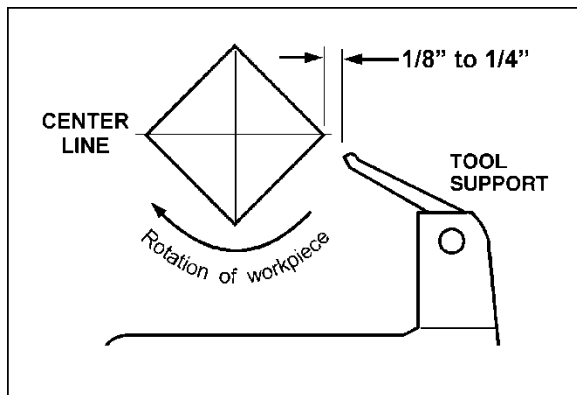

Figure 10-5
10. Move tool support into position. It should be parallel to the workpiece, just below the centerline and approximately 1/8" to 1/4" from the corners of the workpiece to be turned, as in Figure 10-5. Tighten support base to Lathe bed.